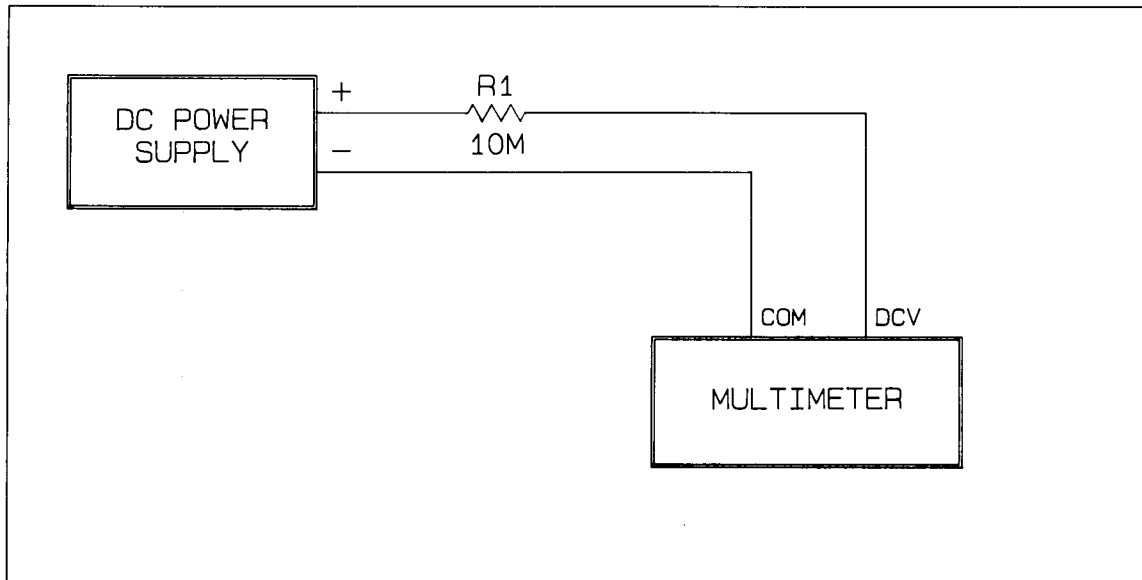

Figure 8-4 DC Isolation Test Set-Up
3. Connect the test equipment as shown in Figure 8-4.